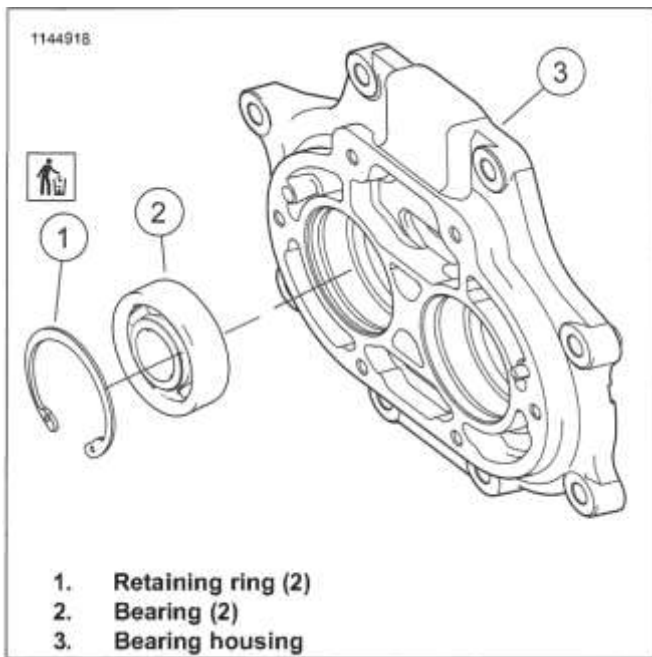

Figure 5-53. Bearing Housing Bearings
1. See Figure 5-53. Remove and discard retaining rings (2).
2. See Figure 5-53. Install new beveled retaining ring (1) with flat side against bearing.